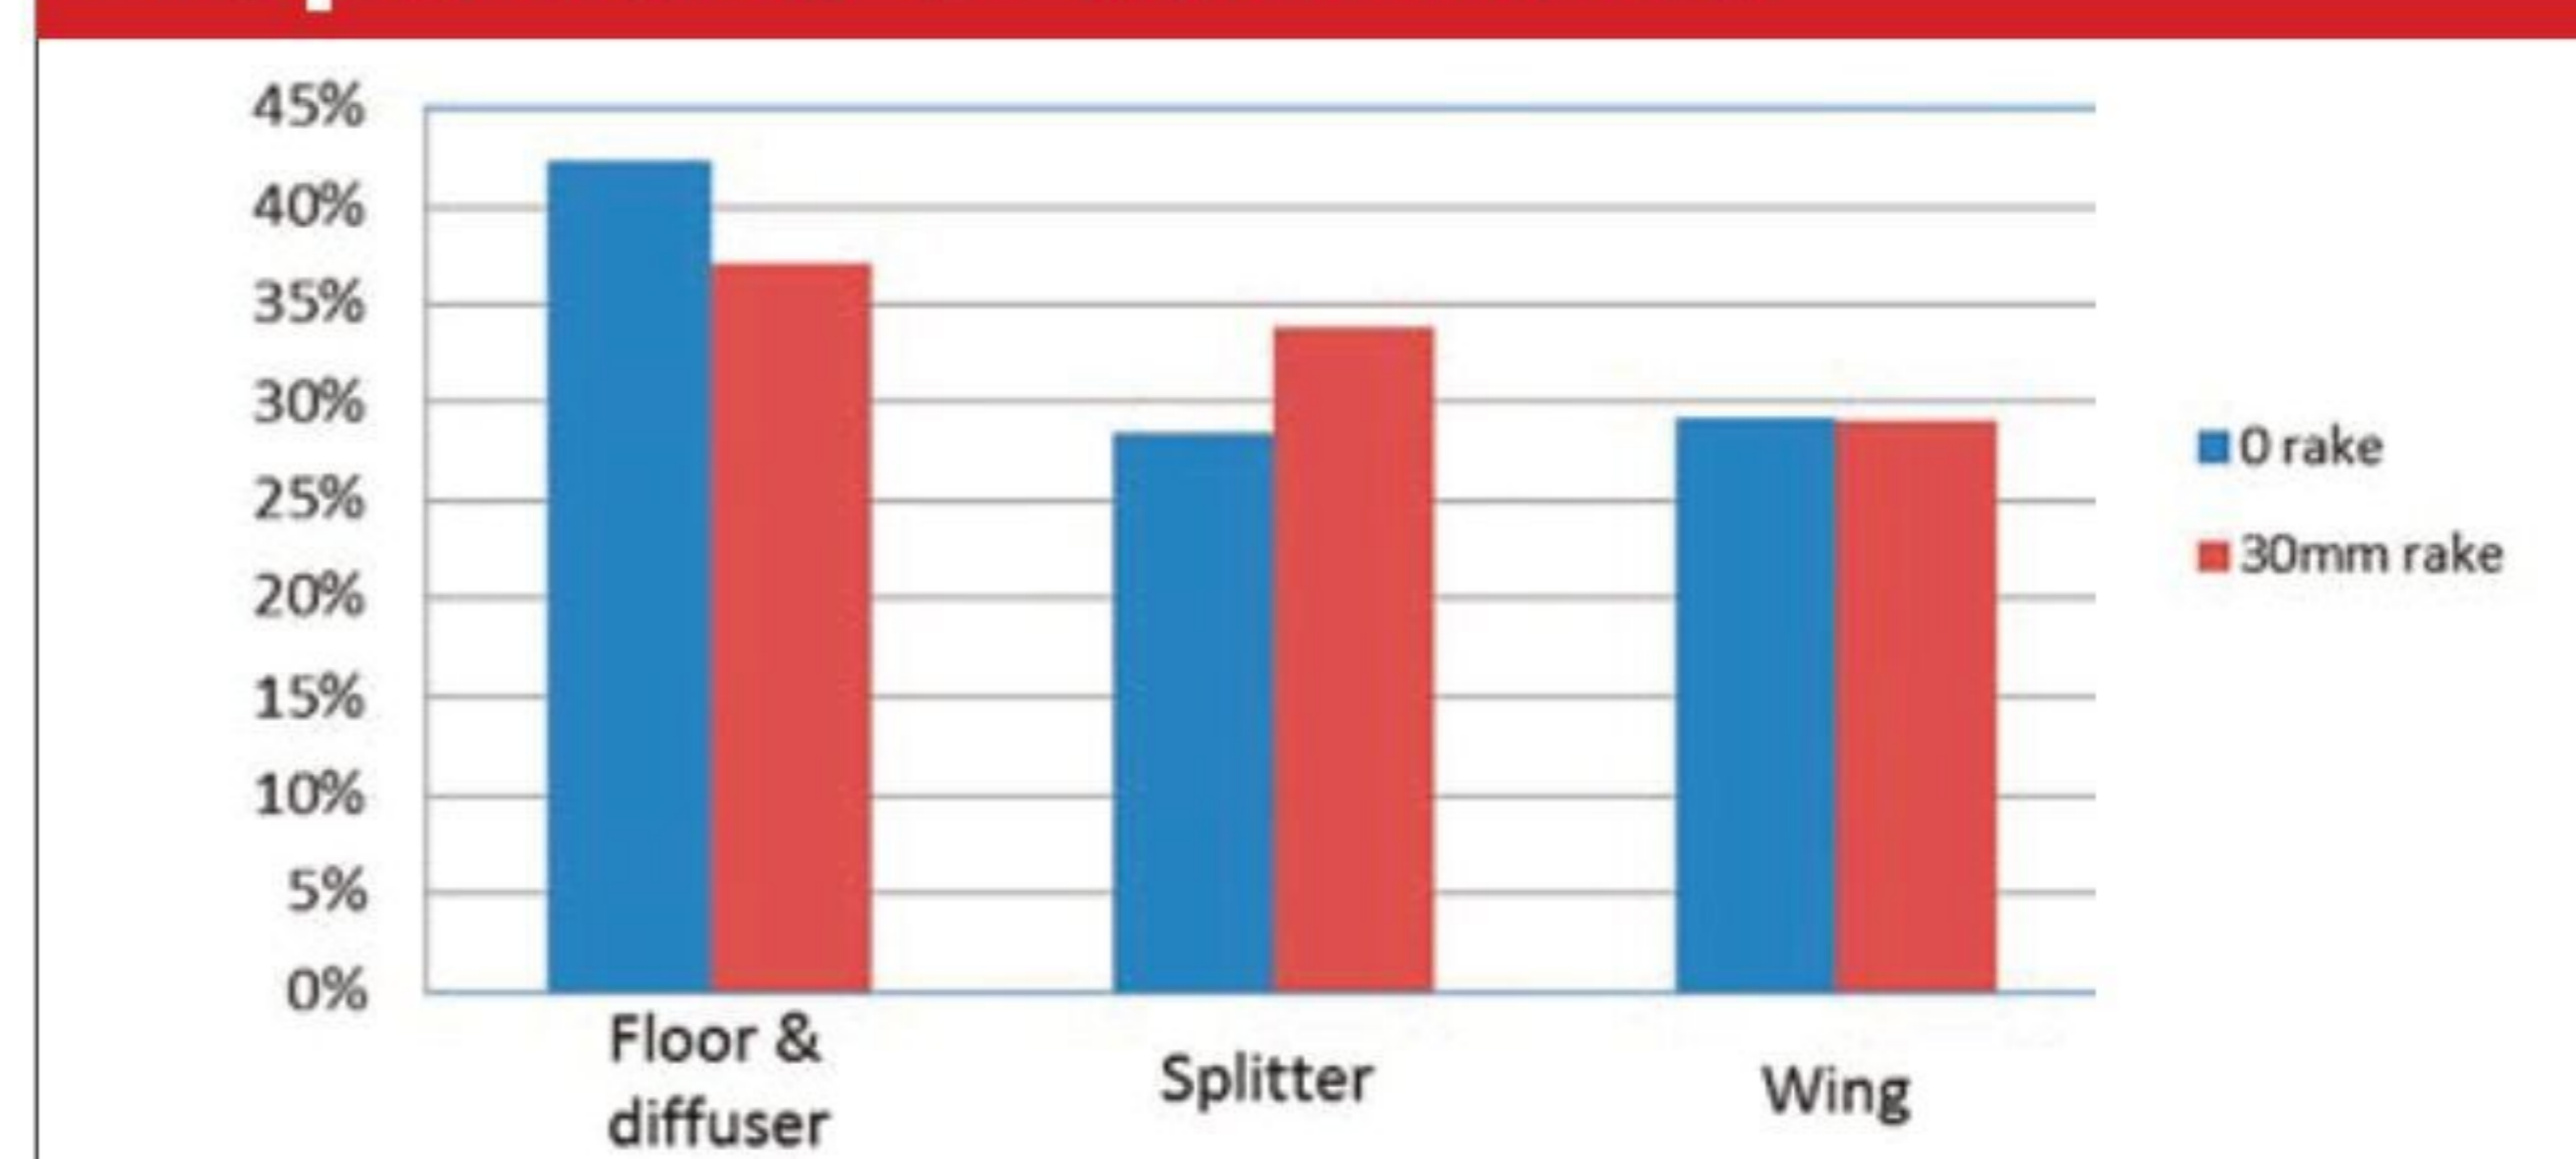

Figure 12: The contributions of the major component groups when rake was altered
**Figure 12** illustrates how the proportions of downforce generation changed from zero to 30mm rake. The floor and diffuser's proportion reduced while the splitter's increased. The rear wing's downforce increased by a very small amount, no doubt because of the small increase in its angle of attack, but its proportionate contribution remained unchanged.